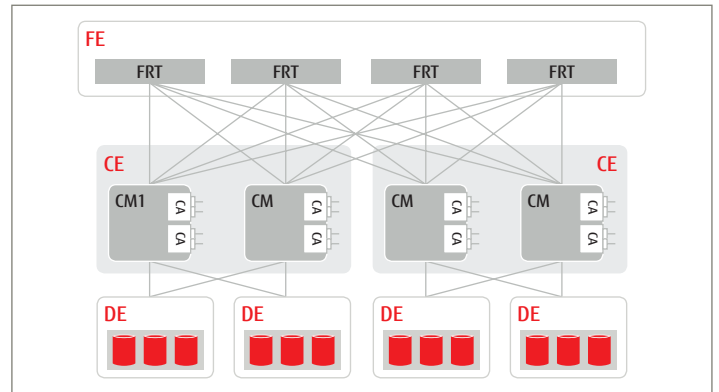

Figure 1
Figure 1 shows the basic architecture of the systems – Controller Modules (CM) interconnected via PCI Express lines over Front-end Routers (FRT). The Controller Modules, as a unit, have one or more host-side interfaces Channel Adapter (CA) and one or more drive-side interfaces installed. To increase the availability of the device, each Controller Module is connected to each Front-end Router so the interconnection of the Controller Modules is quadruplicated – what we call the **Quad Star Architecture**. In addition, a Drive Enclosure (DE) for drive installation has two independent SAS-3 interface ports that are directly connected to two Controller Modules in the Controller Enclosure (CE) for path redundancy. This means that Drive Enclosures that are not directly connected to the Controller Enclosure, can be accessed from any other Controller Module via the Front-end Routers in the Front-end Enclosure (FE). Thus access to any data located in any drive is possible from any Controller Module via redundant paths.